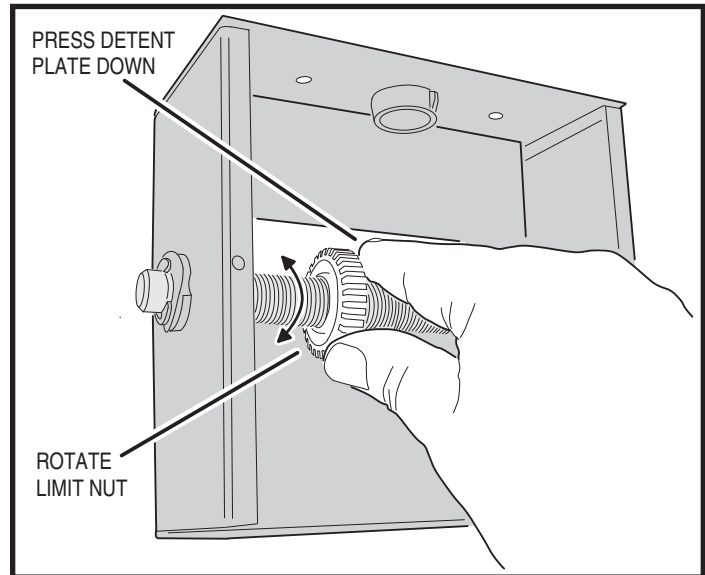

Figure 10. Setting the Limits
2. Once the gate is in this position, adjust the **OPEN** limit nut until it activates the limit switch for open. Press down the detent plate and rotate the nut along the threaded shaft (see Figure 10).